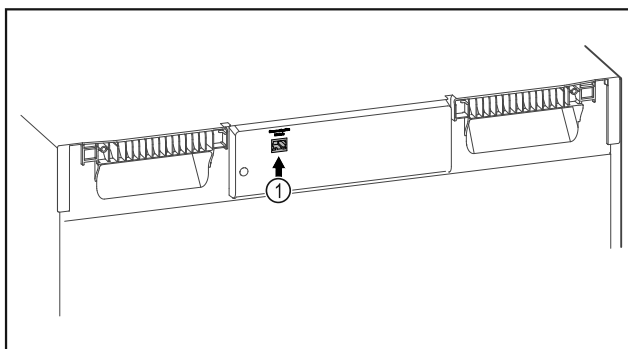

Fig. 87
- ☐ SmartModule Fig. 87 (1) is in use.